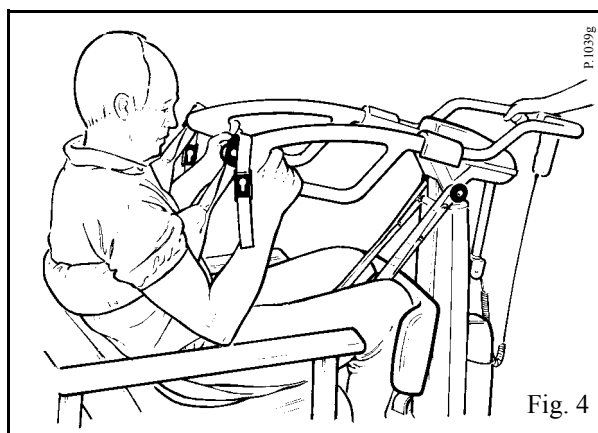

Fig. 4
If possible, the patient should now hold onto the grab handles with one or both hands. (See fig. 4).
When both cords are attached correctly make adjustments on both cords equally so that any slack is taken up in each cord and the back section of the sling supports the patient comfortably and securely, lock the adjustment cords down into the cord retaining cleats. (See Fig. 4).
- **Note:** The patient should be supported by the sling, but not pulled forward too much. (See Fig. 4)